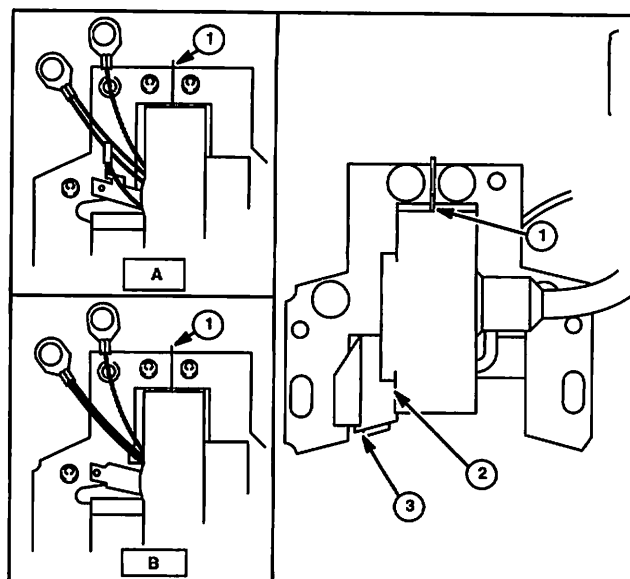

Fig. 11
Magnetron® has been produced in two versions, composite Type I (Inset A), Type II (Inset B), and replaceable module (2), Fig. 11.
NOTE: Magnetron® ignition armatures used on Model Series 120000, 280000 do not have a visible trigger pole (3) and do not have a Mylar spacer (1), Fig. 11.